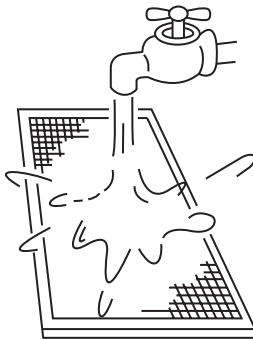

fig. 9-4
- The air-in side should face down when using water. (See fig.9-4)